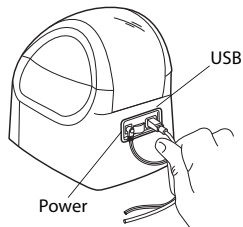

Figure 5
- 2 Plug the power adapter into the power connector on the back of the printer. See Figure 5.
- 4 Plug the USB cable into the USB port on the back of the printer. See Figure 5.